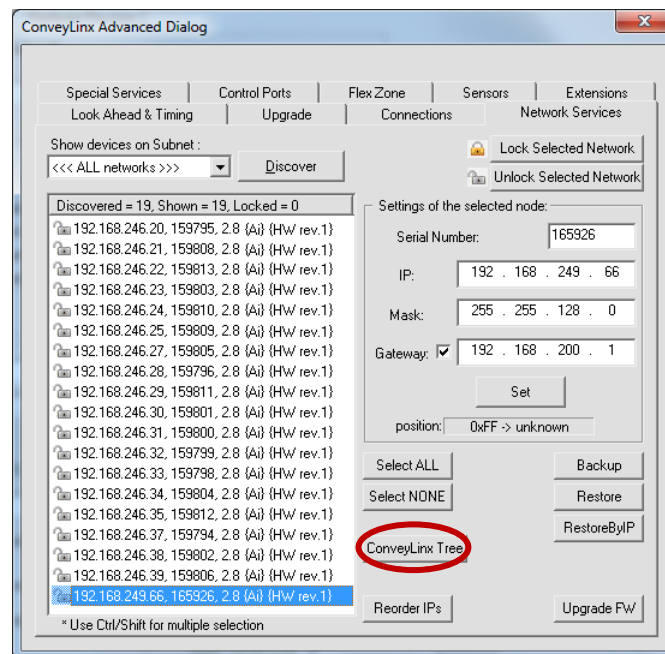
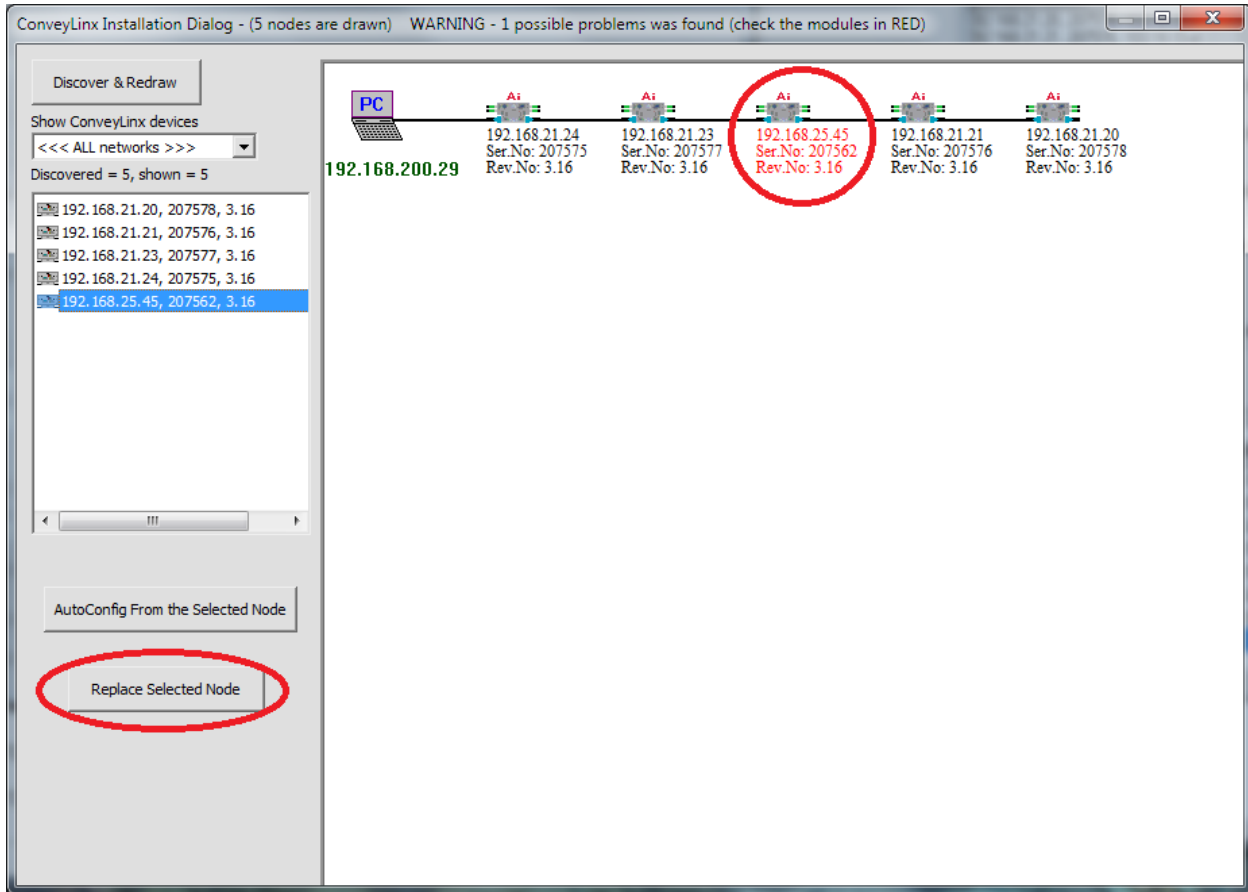

FIGURE 27 - EASYROLL NETWORK SERVICES TAB AFTER DISCOVERY
FIGURE 28 - TOPOLOGY VIEW AND REPLACING THE SELECTED NODE
3. Start *EasyRoll V3.7* or higher. Press F2 and go to tab **Network Service**, click on **Discover** button. All modules in the network should be display. Click on **ConveyLinX Tree** button as shown in Figure 27 . Topology of the ConveyLinX modules will be display in a few seconds. Select the ConveyLinX Ai module from the list on the left side and click on **Replace Selected Node** as shown in Figure 28. Note that this module's text detail in the topology view will be in RED.